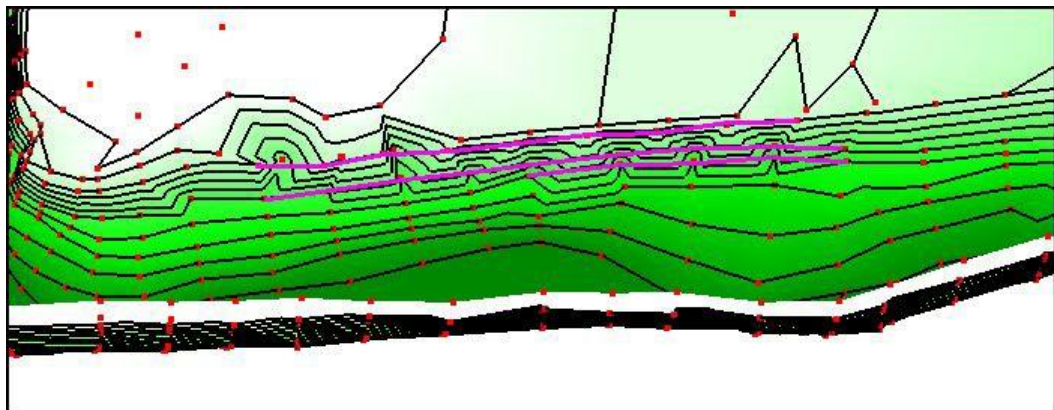

Figure 9 Connectivity for breaklines on the bank
- Select the **Create Breakline**  tool and add breaklines along the bank of the channel. Do this by clicking on the scatter points with common elevations as shown in Figure 9 (This illustrates three separate breaklines). End a breakline with double clicking on the last point.